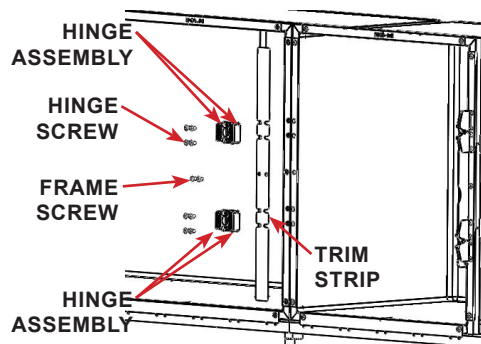

FIGURE 2.24 - Trim Strip Installation
**STEP 14:** Install the trim strip underneath the hinge assemblies and thread the center frame screws, do NOT fully tighten. See FIGURE 2.24